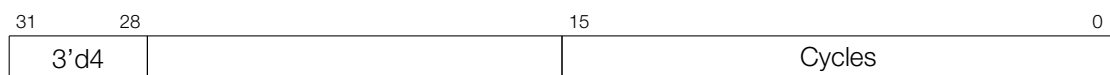

Figure 152: Instruction Type — WAIT
**Operand**    **Description** - see Figure 152